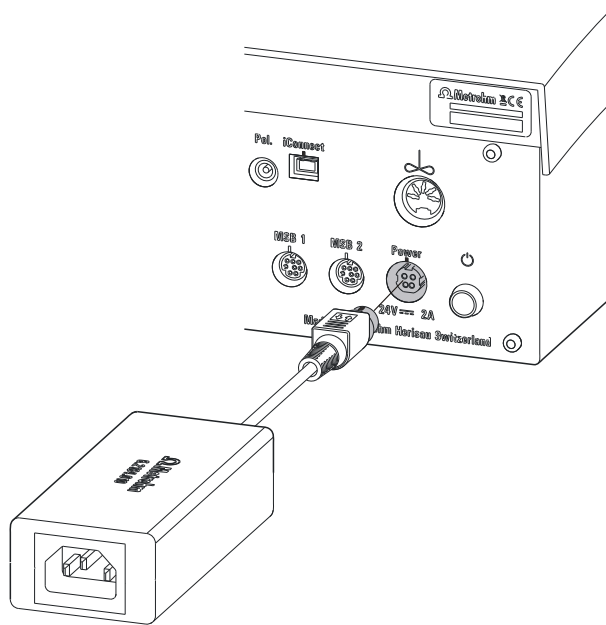

Figure 3 Connect power supply unit
- 1 Connect the plug of the external power supply unit with the power socket of the Ti-Touch (see figure 3, page 12).